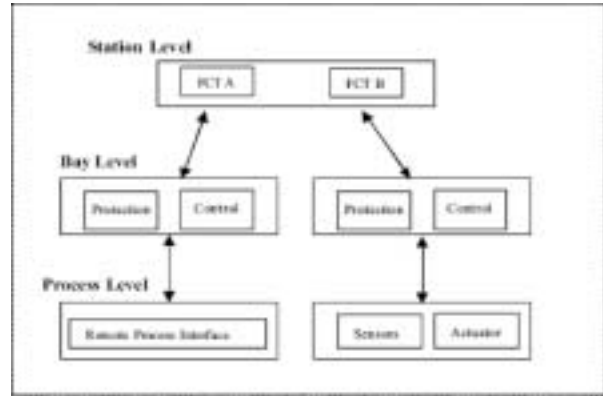

Fig.2. Levels defined in IEC-61850
encased with daylight filters. The photodetector connects to low noise electronic circuitry that includes a transimpedance amplifier and filtering circuitry. A high pass filter reduces the size of the dominant DC component and enables the pulsatile AC component to be boosted to a nominal 1 V peak-to-peak level. Carefully chosen filtering circuitry is also needed to remove the unwanted higher frequency noise such as electrical pick up from (50 Hz) mains electricity frequency interference. Figure 2(a) shows a transimpedance amplifier design and figure 2(b) shows the signal conditioning stages surrounding this, including low pass filtering, high pass filtering and further amplification, signal inversion and signal interface. The choice of high pass filter cut-off frequency is particularly important and is often a design compromise; excessive filtering can distort the pulse shape but too little filtering can result in the quasi-DC component dominating over the AC pulse. This example system shows a constant current driver stage for the PPG probe LED.
Figure 2. Electronic building blocks used in a typical PPG measurement system. (a) A transimpedance (current-to-voltage) amplifier stage that converts light intensity at the photodiode (PD) to an amplifier output voltage ($V = I \times R$, transimpedance gain proportional to feedback resistor value R). (b) The signal conditioning stages surrounding the transimpedance amplifier which include low pass filtering, high pass filtering and further amplification, inversion and signal interfaces. The AC component and a measure of the DC component are available for pulse wave analysis. A constant current driver stage for the PPG LED is also shown.